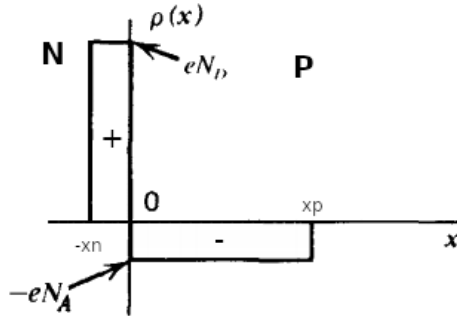

Figure 3: Charge density in a pn junction
2. Assuming a p-n junction, with a n^+ region much more doped with impurities than the p-bulk region (see Fig. 3), i.e. $N_{donors} \gg N_{acceptors}$. Determine